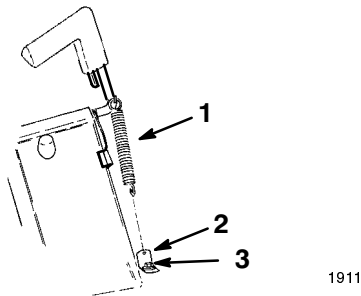
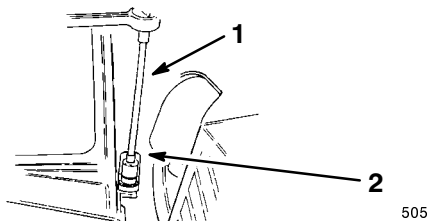

Figure 29
Figure 30
5. Secure the spring bracket and discharge tunnel to the lawn mower with the left front bolt (Fig. 29). A socket set extension may be necessary (Fig. 30).
6. Hook the end of the spring through the small hole on the spring bracket (Fig. 29).